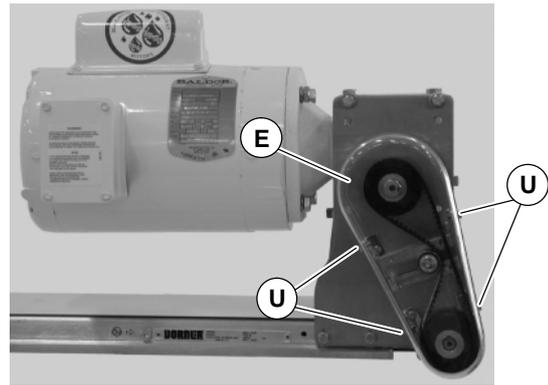

Figure 9
8. Attach cover (E of Figure 9) with screws (U). Tighten screws to 4 Nm.